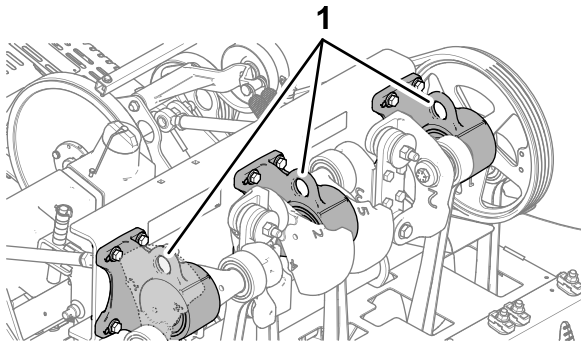

**Figure 128**
3. Place the jack securely under the frame plate just inside of the rear wheel (Figure 128).